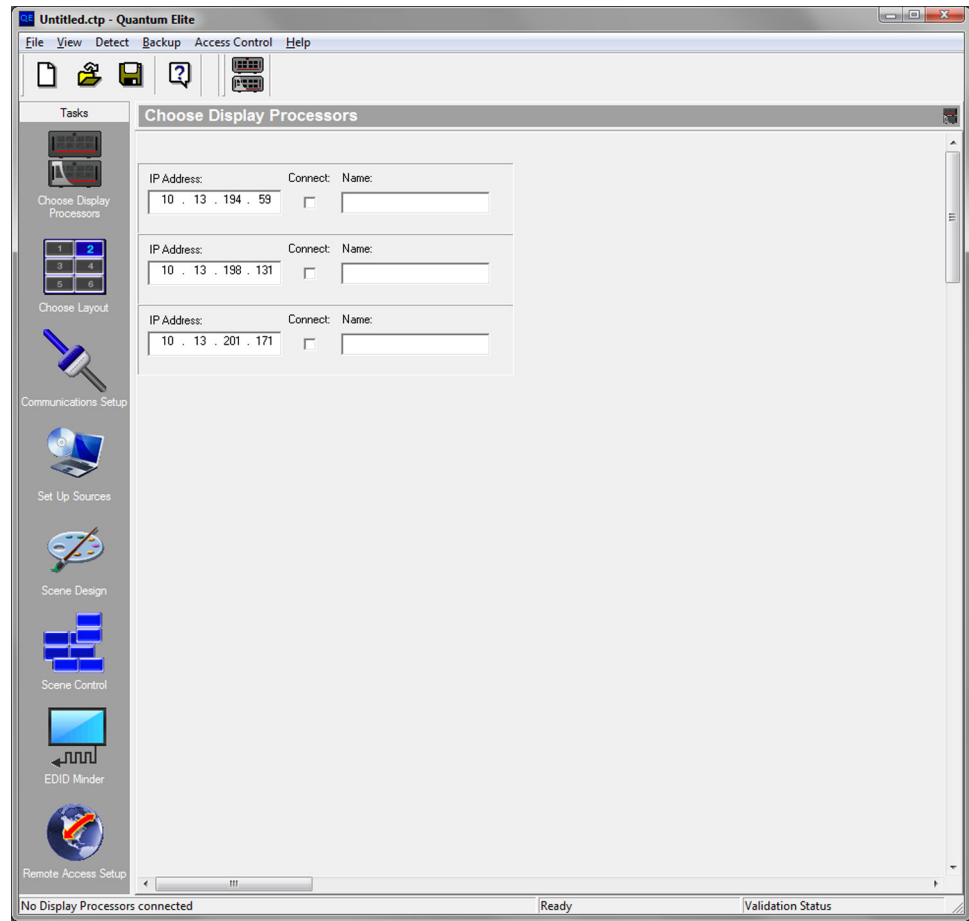

Figure 4. Choose Display Processors Workspace
2. Click the  button on the main application window toolbar (see figure 4)
The Quantum Control Software polls for any Quantum processors accessible via its Ethernet port. An information panel is displayed for each processor detected, as shown in figure 4.